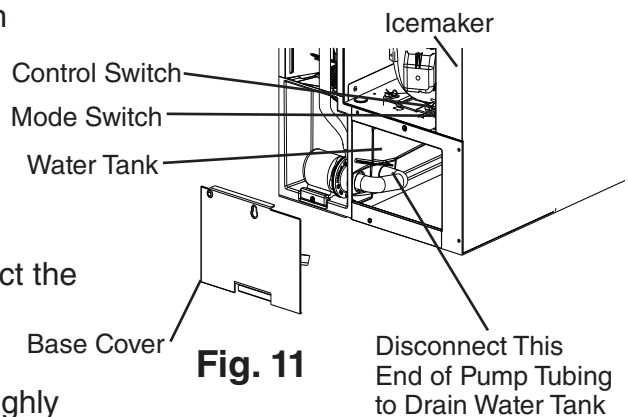

Fig. 11
- 12) Remove the base cover and disconnect the rear pump tubing connection to drain the water tank. See Fig. 11.